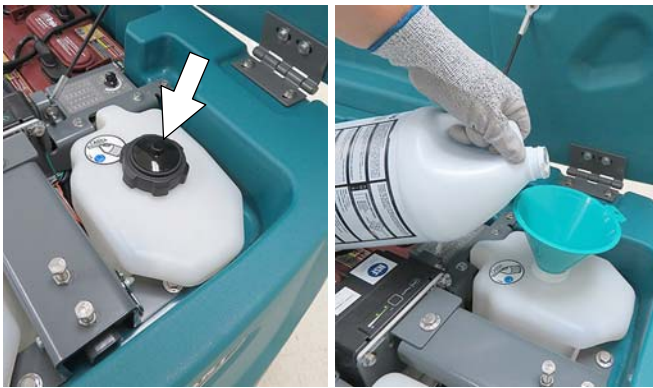

FIG. 104
11. Severe environment option - Refill the severe environment tank with a recommended cleaning detergent at full concentration (Figure 104). Replace cap.